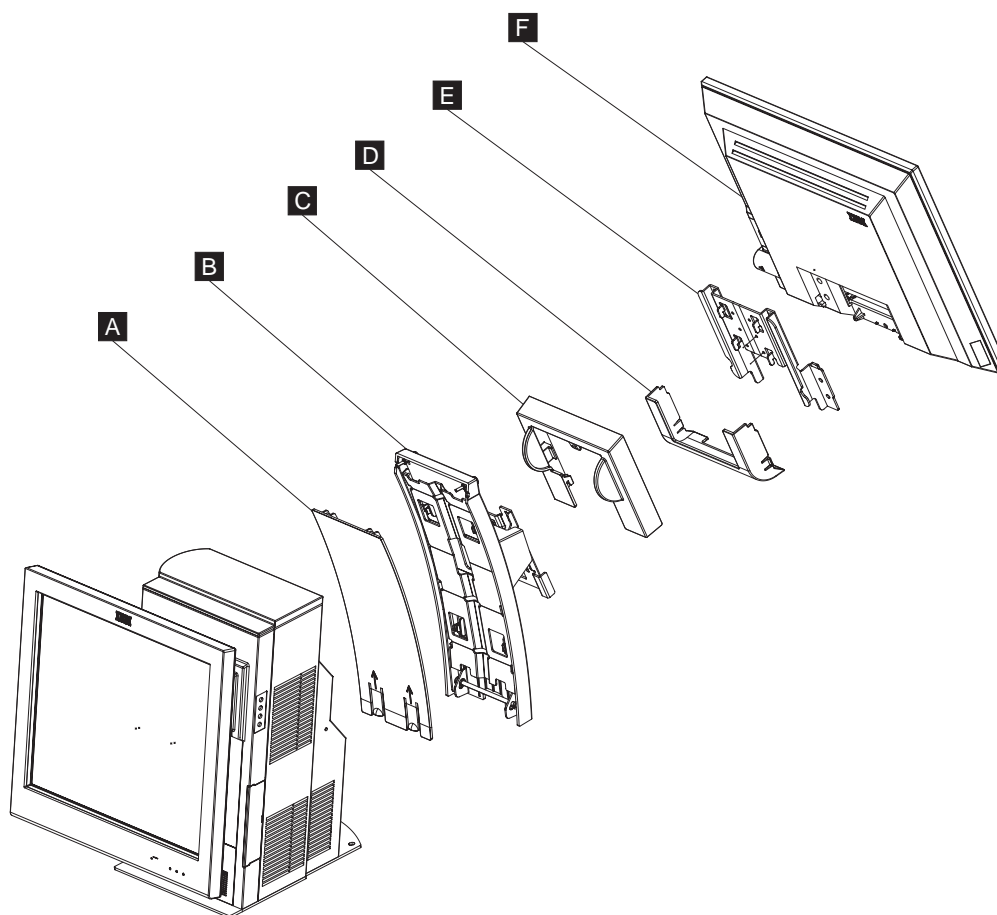

Figure 44. Attaching the 4820 SurePoint Solution display to the mounting foot
3. Install 4820 display bracket on the rear of the 4820 display **E** in Figure 44.